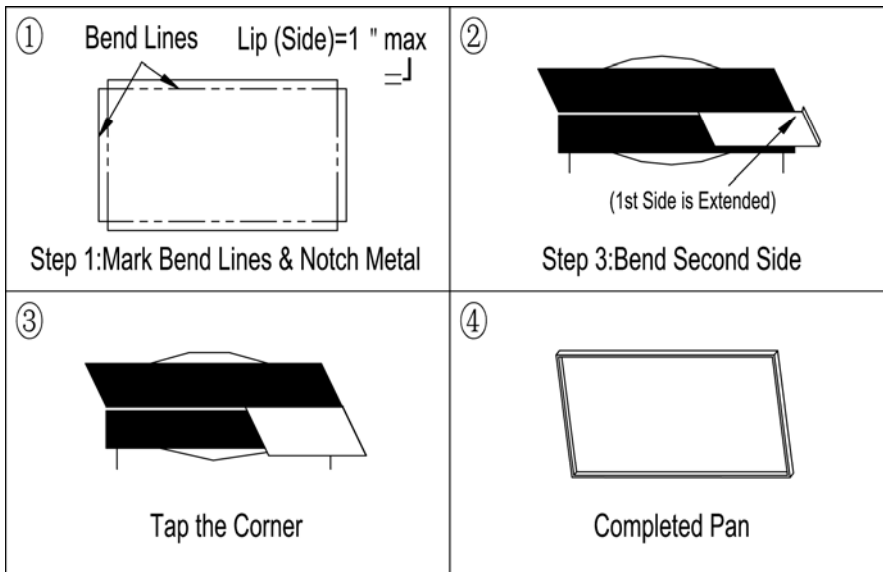

Figure 9 – Pan Forming
Step 2: Insert material between the BENDING TOOL (S) and BENDING PRISM. Bend the material until a 90-degree angle has been formed as shown in Figure 9.